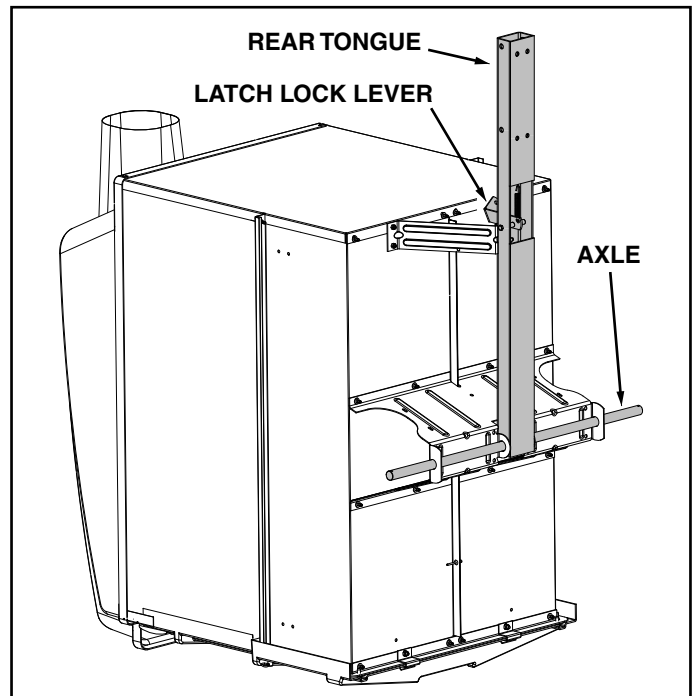

FIGURE 3
4. Install the rear tongue and the axle onto the cart body, sliding the axle through the wheel support and the tongue. Lock the tongue to the latch stand bracket with the latch lock lever. See figure 3.